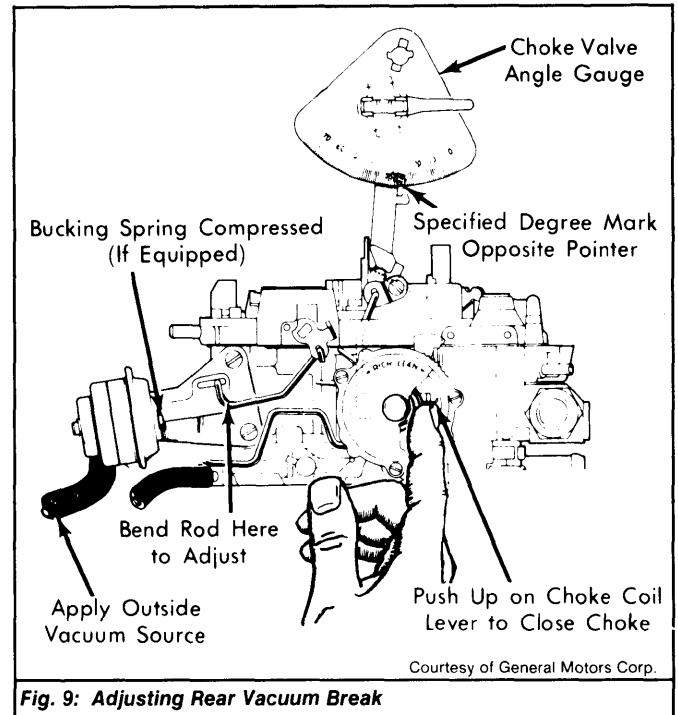

Fig. 9: Adjusting Rear Vacuum Break
- 1) Using an outside vacuum source of at least 15 in. Hg vacuum, seat rear vacuum break diaphragm. See Fig. 9. Make sure bucking spring on diaphragm plunger (if equipped) is compressed and seated.